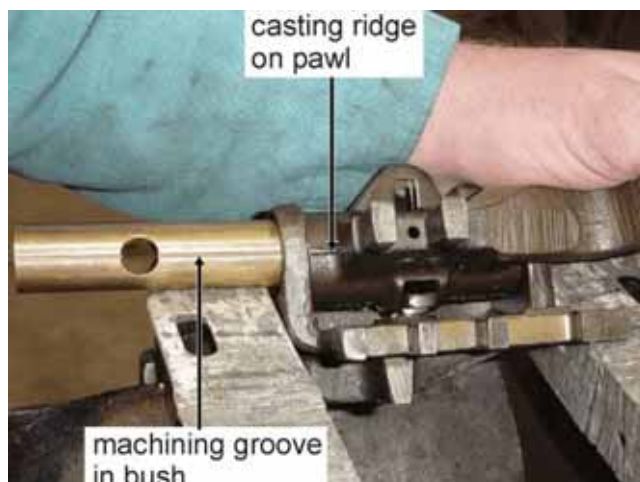
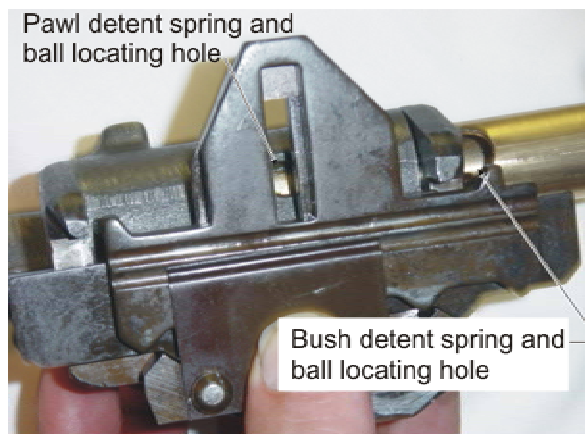

Figure 3 Cross Shaft Bush Alignment
Figure 4 Detent Spring and Ball Locating Holes
- o. Insert the chamfered end of the cross shaft bush (Table 1, Item 1.1) towards the pawl and align the machined groove in the outer diameter of the bush with the casting ridge on the pawl (Figure 3). When the bush is in its final position, the machined groove in the outer diameter of the bush and the casting ridge on the pawl must be aligned.
The locking agent (Loctite 609) (Table 1, Item 1.4) must only be applied through the pawl detent spring and ball locating hole (Figure 4). Do not apply the locking agent, until the cross shaft bush is inserted through the pawl and the chamfered end of the bush is visible at the detent spring and ball-locating hole (Figure 4). If the locking agent is applied prior to the bush being inserted to the detent spring and ball locating hole, the bush may become bonded to the pawl end of the shift finger when the bush is finally located. As a result, shift lever operation will be stiff. If the bush becomes bonded to the pawl end of the shift finger, the assembly must be stripped, cleaned of all locking agent residue, and reassembled as described in Subparas m. to q.
- p. Push the cross shaft bush (by hand) into the pawl, until the chamfered end of the bush appears at the detent spring and ball locating hole is in the centre of the pawl. At the same time, the detent spring and ball-locating hole in the bush will just begin to be covered by the pawl, see Figure 4.
- q. Commence applying the locking agent through the pawl detent spring and ball-locating hole (Figure 4); at the same time working the cross shaft bush forward in a twisting motion. Continue to apply locking agent to gain maximum coverage of the locking agent between the bush and the pawl surfaces. Cease the application of the locking agent, just before the detent spring and ball locating hole in the bush aligns with the detent spring and ball locating hole in the pawl. Ensure that before the bush is ready to be knocked into its final position the machined groove in the outer diameter of the bush and the casting ridge on the pawl are aligned, see Figure 3.